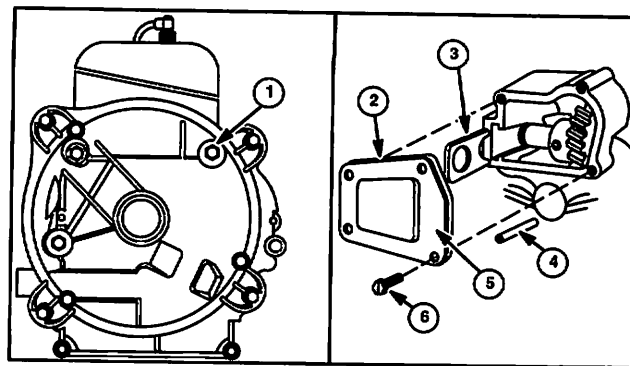

Fig. 14
3. After the crankcase cover and gasket are in place, install cover screws. Be sure that screw in hole (1) Fig. 14, has nonhardening sealant, such as Permatex® II, on threads of screw.